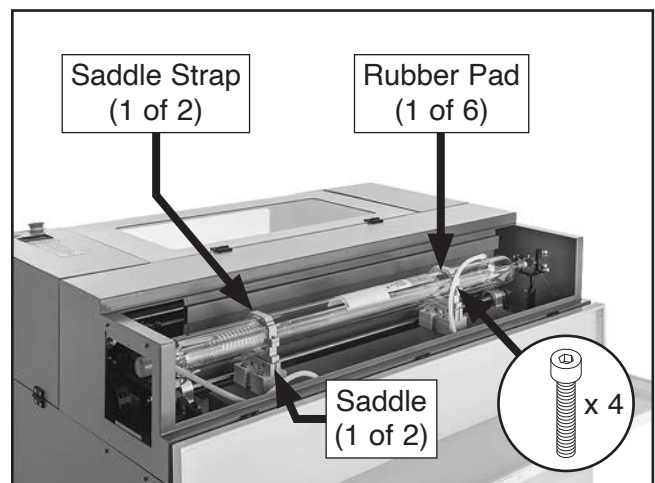

Figure 100. Laser tube saddles installed (G0873 shown).
21. Clean rubber pads on saddle straps and place on laser tube above saddles, as shown in **Figure 100**.